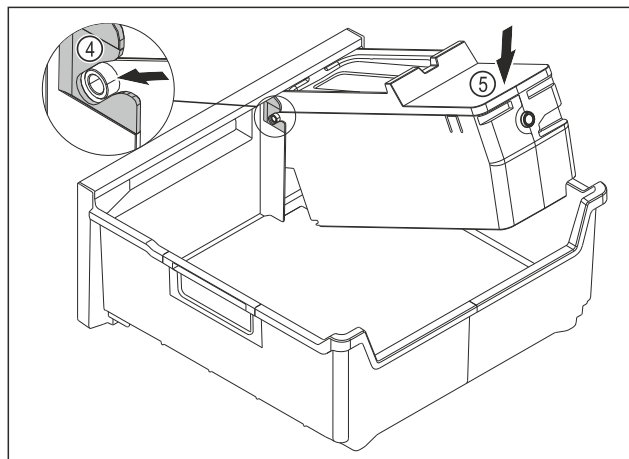

Fig. 82
- Installing the EasyTwist-Ice body: Push the axes for the EasyTwist-Ice body into the guides Fig. 82 (4).
- Press the EasyTwist-Ice body Fig. 82 (5) down at the back.